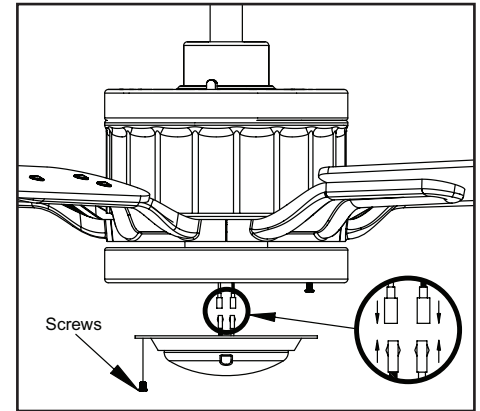

Figure 17
3. Remove one screw from the light kit pan and loosen, but do not remove the other two screws. Connect the wires from the light kit fitter assembly to the wires from the fan motor assembly by connecting the molded adaptor plugs together. Carefully tuck all wires and splices into the switch cap. (Figure 17)
4. Push the light kit fitter assembly up so that the two loosened screw heads fit into the keyhole slots. Turn the light kit fitter assembly clockwise, tighten the screws. Re-install the screw that was removed in step 3 and tighten firmly. (Figure 17)